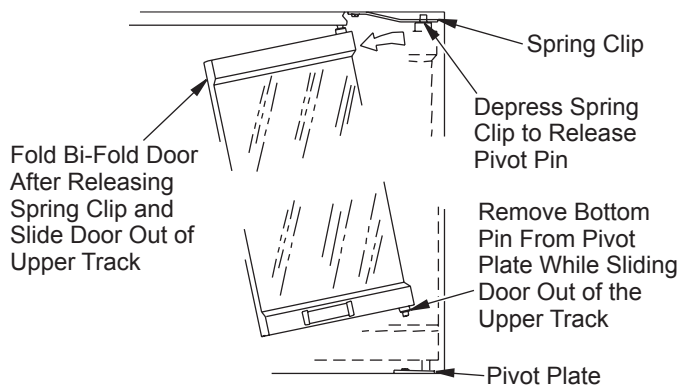

Figure 37 - Removing Glass Doors
2. Fully fold the frame assembly and slide the upper edge towards the center of the firebox opening until the guide pins are free of the frame rail (see Figure 37).